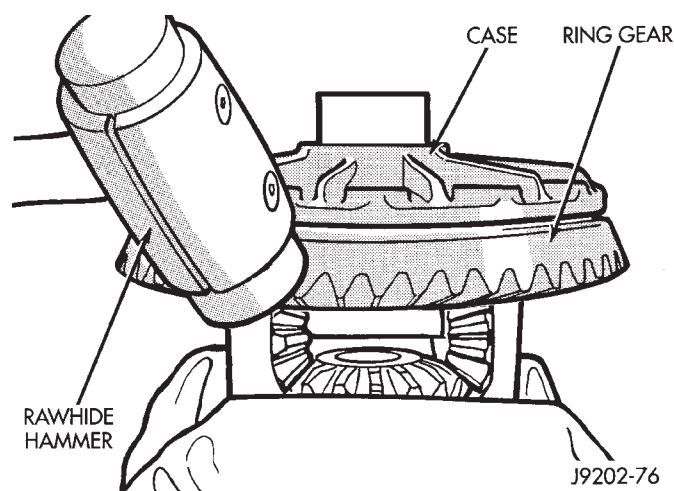

Fig. 25 Ring Gear Removal
- (1) Remove differential from axle housing.
- (2) Place differential case in a suitable vise with soft metal jaw protectors. (Fig. 25)
- (3) Remove bolts holding ring gear to differential case.
- (4) Using a soft hammer, drive ring gear from differential case (Fig. 25).